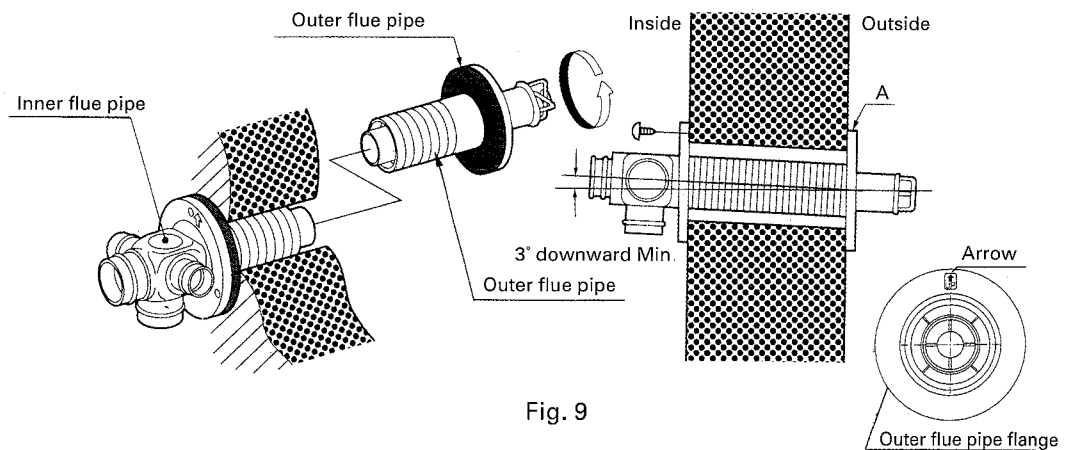

Fig. 9
c. From outside, insert the outer flue pipe through the hole. Secure the outer flue pipe to the wall by turning it clockwise. This locks the two halves together (See fig. 9).
NOTE: Make sure the arrow on the outer flue pipe flange is pointing up. Make sure to secure the outer flue pipe well. (A-part shown in Fig. 9)